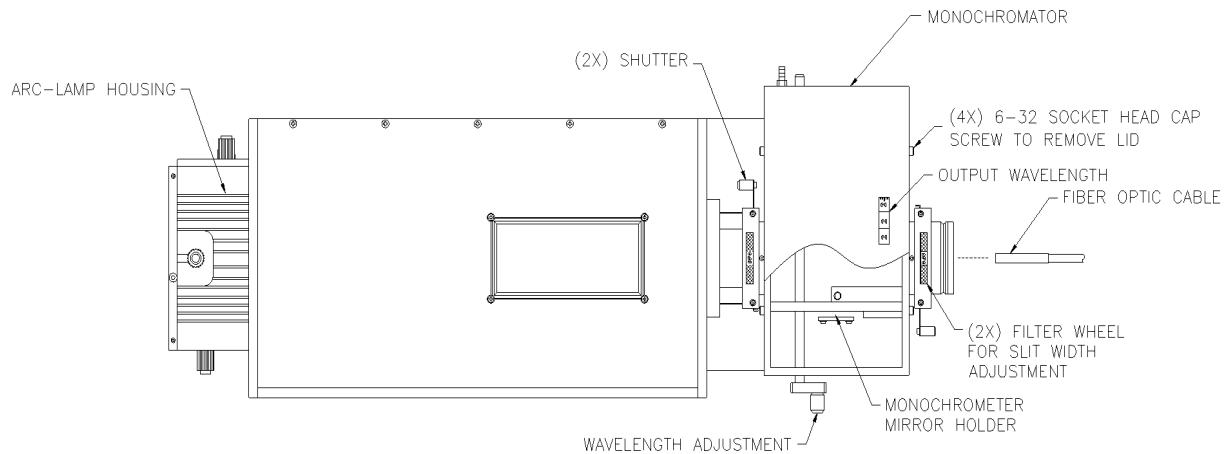

Figure 3: Light Source Schematic
4. The grating for the monochromator has been removed for transportation and will need to be installed. DO NOT touch the grating surface. If your light source is equipped with the auto wavelength drive you will need to remove the housing by removing the 3 Philips head screws that secure it. Next remove the four socket head cap screws that hold the monochromator lid in place. There are two screws located at the front bottom of the monochromator and two between the monochromator and lamp housing (*Figure 3*). You will use a 7/64" Allen wrench to loosen these screws (they do not need to be removed). Pull the lid upwards to remove it and set it aside. Looking from the front of the monochromator from the top, there will be two round braces. To the left of the left round brace will be a flap. Push the flap towards the left and install the grating into the rectangular slot. Hold on to the extension on the grating. The grating will seat into the slot with very little play in any direction. Return the lid and tighten screws.